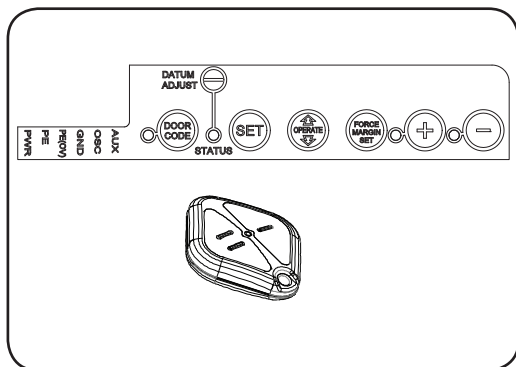

Fig. 33
- Press DOOR CODE button three times. The DOOR CODE LED will illuminate and the courtesy light will flash slowly (once every two seconds) to indicate Vacation learning mode is active. (Fig. 33)
- Press the same transmitter button again. The DOOR CODE LED will illuminate for one second and then go out, and the courtesy light will also switch off. This indicates the code has been stored (Fig. 33).